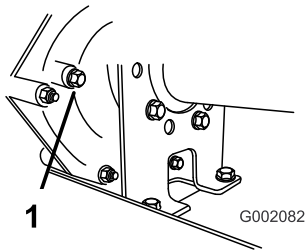

Figure 55
2. Remove the bolt from the level-indicating hole (Figure 55).